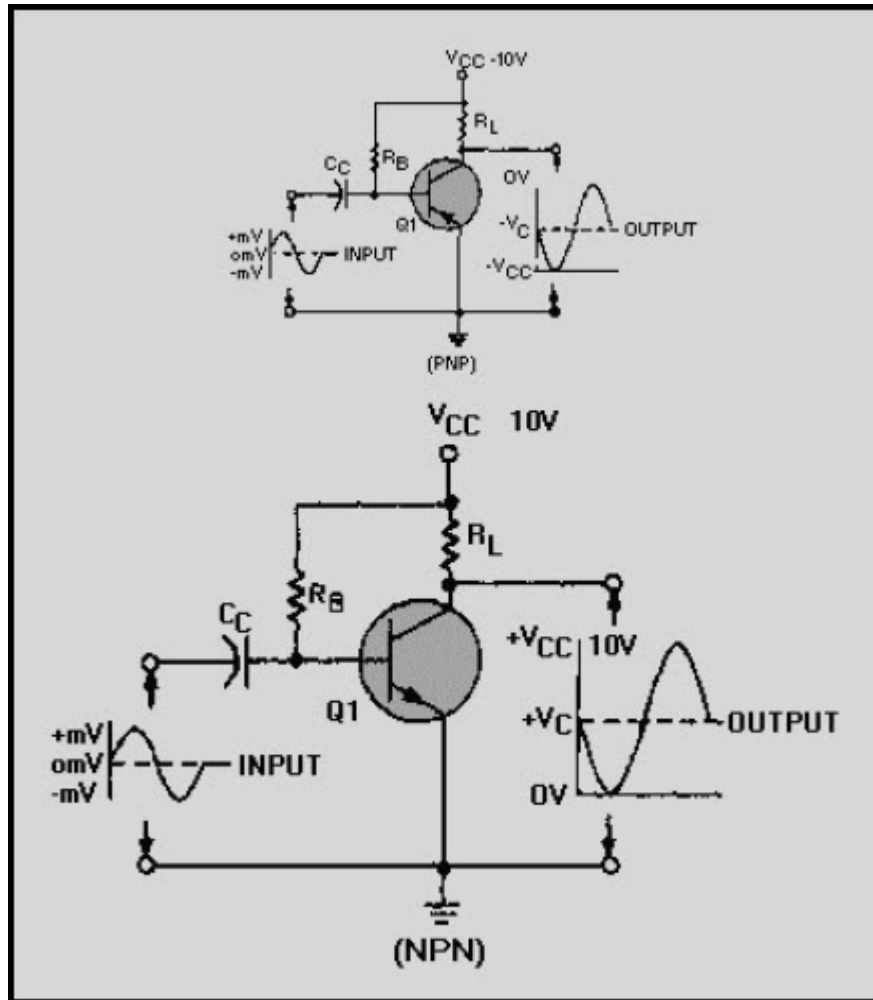
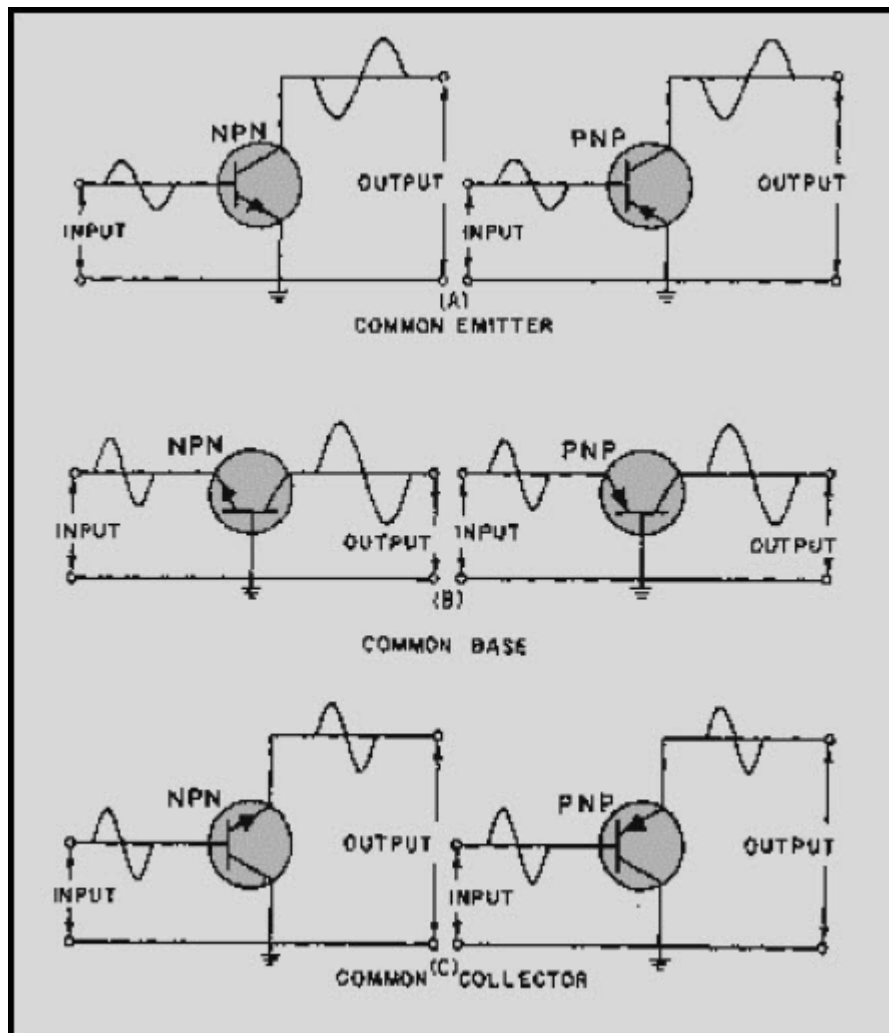

Figure 2-12 The basic transistor amplifier
Figure 2-16 Transistor configurations
Now take a look at the NPN version of the basic transistor amplifier in figure 2-12 and let's see just how it works.
By inserting one or more resistors in a circuit, different methods of biasing may be achieved and the emitter-base battery eliminated. In addition to eliminating the battery, some of these biasing methods compensate for slight variations in transistor characteristics and changes in transistor conduction resulting from temperature irregularities. Notice in figure 2-12 that the emitter-base battery has been eliminated and the bias resistor R_B has been inserted between the collector and the base. Resistor R_B provides the necessary forward bias for the emitter-base junction. Current flows in the emitter-base bias circuit from ground to the emitter, out the base lead, and through R_B to V_{CC} . Since the current in the base circuit is very small (a few hundred microamperes) and the forward resistance of the transistor is low, only a few tenths of a volt of positive bias will be felt on the base of the transistor. However, this is enough voltage on the base, along with ground on the emitter and the large positive voltage on the collector, to properly bias the transistor.
The first biasing method, called BASE CURRENT BIAS or sometimes FIXED BIAS, was used in figure 2-12. As you recall, it consisted basically of a resistor (R_B) connected between the collector supply voltage and the base. Unfortunately, this simple arrangement is quite thermally unstable. If the temperature of the transistor rises for any reason (due to a rise in ambient temperature or due to current flow through it), collector current will increase. This increase in current also causes the dc operating point, sometimes called the quiescent or static point, to move away from its desired position (level). This reaction to temperature is undesirable because it affects amplifier gain (the number of times of amplification) and could result in distortion, as you will see later in this discussion.
Biasing an amplifier in this manner places the dc operating point between cutoff and saturation and allows collector current to flow during the complete cycle (360 degrees) of the input signal, thus providing an output which is a replica of the input. Figure 2-12 is an example of a class A amplifier. Although the output from this amplifier is 180 degrees out of phase with the input, the output current still flows for the complete duration of the input.
A transistor may be connected in any one of three basic configurations (fig. 2-16): common emitter (CE), common base (CB), and common collector (CC). The term common is used to denote the element that is common to both input and output circuits. Because the common element is often grounded, these configurations are frequently referred to as grounded emitter, grounded base, and grounded collector.
Therefore, by applying these three simple steps to the circuit in figure 2-12, we can conclude that this circuit is more than just a basic transistor amplifier. It is a common-emitter amplifier.
The common-emitter configuration (CE) shown in figure 2-16 view A is the arrangement most frequently used in practical amplifier circuits, since it provides good voltage, current, and power gain. The common emitter also has a somewhat low input resistance (500 ohms-1500 ohms), because the input is applied to the forward-biased junction, and a moderately high output resistance (30 kilohms-50 kilohms or more), because the output is taken off the reverse-biased junction. Since the input signal is applied to the base-emitter circuit and the output is taken from the collector-emitter circuit, the emitter is the element common to both input and output.
Since you have already covered what you now know to be a common-emitter amplifier (fig. 2-12), let's take a few minutes and review its operation, using the PNP common-emitter configuration shown in figure 2-16 view A.
The common-base configuration (CB) shown in figure 2-16, view B is mainly used for impedance matching, since it has a low input resistance (30 ohms-160 ohms) and a high output resistance (250 kilohms-550 kilohms). However, two factors limit its usefulness in some circuit applications: (1) its low input resistance and (2) its current gain of less than 1. Since the CB configuration will give voltage amplification, there are some additional applications, which require both a low-input resistance and voltage amplification that could use a circuit configuration of this type; for example, some microphone amplifiers.
Unlike the common-emitter circuit, the input and output signals in the common-base circuit are in phase. To illustrate this point, assume the input to the PNP version of the common-base circuit in figure 2-16 view B is positive. The signal adds to the forward bias, since it is applied to the emitter, causing the collector current to increase. This increase in I_c results in a greater voltage drop across the load resistor R_L (not shown), thus lowering the collector voltage V_C . The collector voltage, in becoming less negative, is swinging in a positive direction, and is therefore in phase with the incoming positive signal.
The common-collector configuration (CC) shown in figure 2-16 view C is used mostly for impedance matching. It is also used as a current driver, because of its substantial current gain. It is particularly useful in switching circuitry, since it has the ability to pass signals in either direction (bilateral operation).